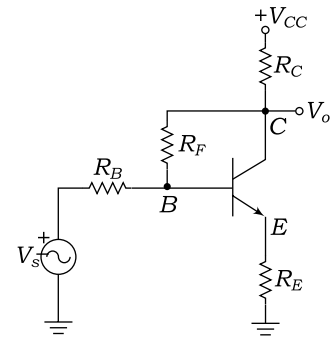

Fig. 4.53
24. The transistor feedback amplifier circuit is depicted in Fig. 4.53 and it has the following parameters: